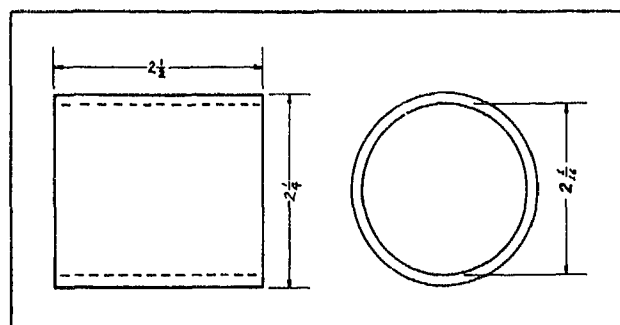

Fig. 28. Special Spacers
NOTE: Special spacers may be made from tubular stock machined to proper dimensions shown in Fig. 28. This is not necessary if bearing cones (3) and spacer (5) are centered on shaft (11) equal distances from shaft ends.